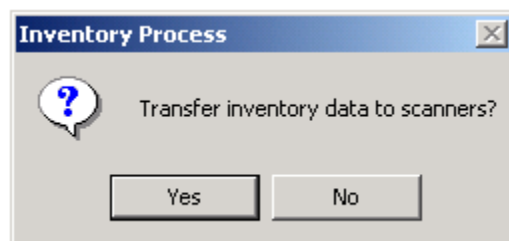

Figure D5
- i. Click on the OK button. Inventory process screen will appear (Transfer Inventory Data to Scanner) with YES or NO prompt. (FIGURE D5)